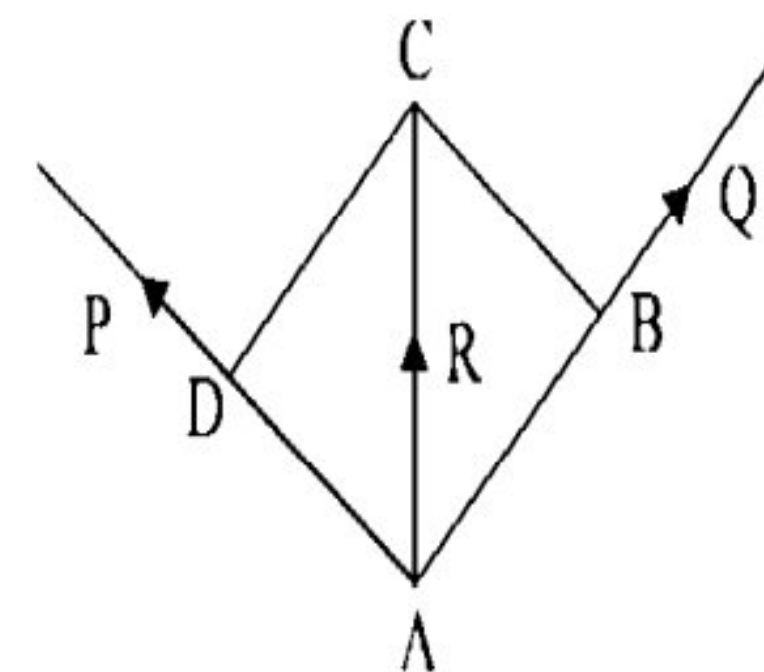

Fig 4.6
- xi) Remove the sheet of paper. Join the marked points to show the direction of forces (Fig. 4.6).